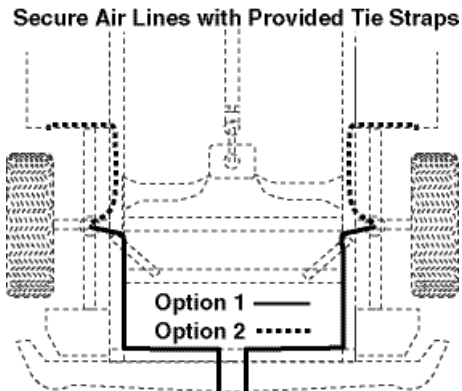

fig. 11
The wheel well flanges; The license plate recess in bumper; Under the gas cap access door; Through license plate (Figure 11).
5. Keep at least 6" of clearance between the air line and heat sources, such as the exhaust pipes, muffler, or catalytic converter. Avoid sharp bends and edges. Leave at least 2" of slack when securing the air lines to allow for any movement that might pull on the air line (Figure 11).